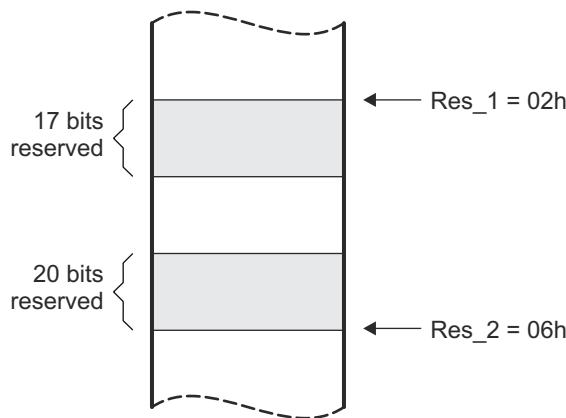

Figure 5-4. The .space and .bes Directives
- Figure 5-4** shows how the **.space** and **.bes** directives work for the following assembled code: